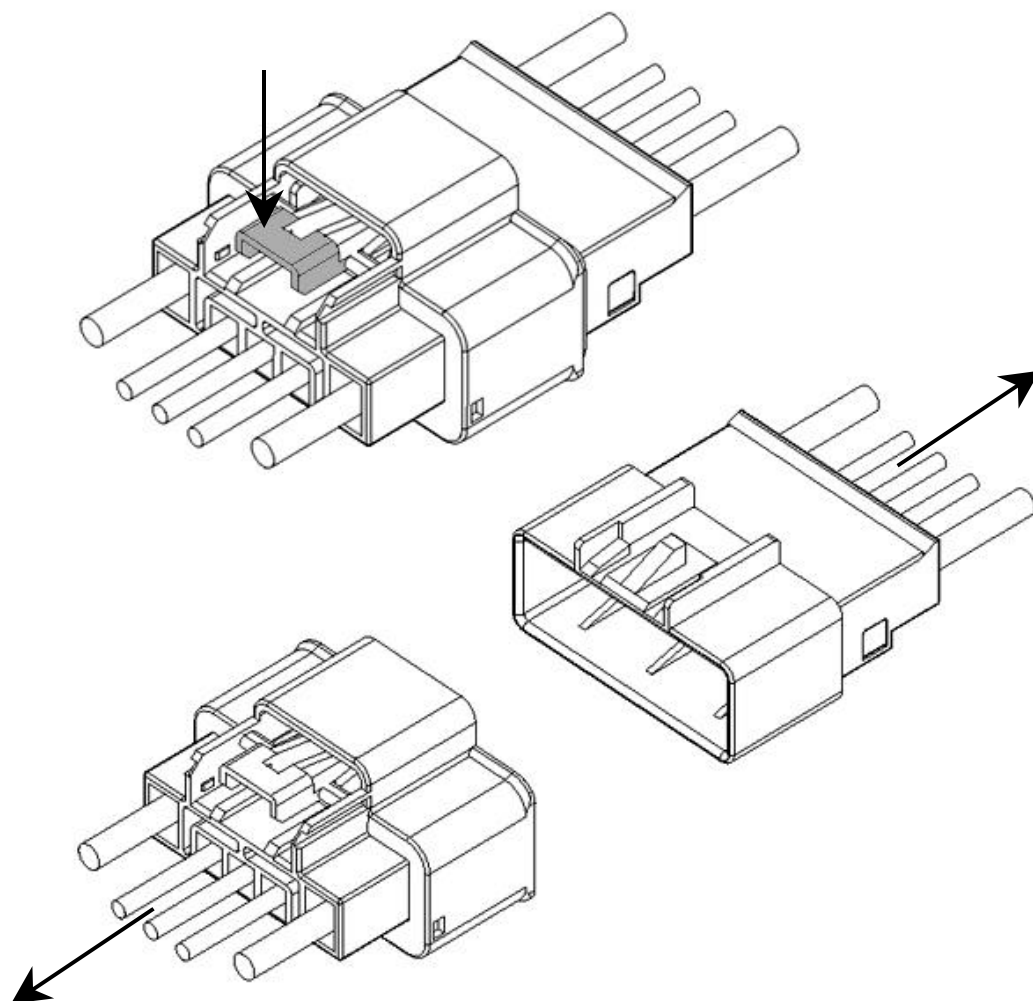

Figure 6
- 6.1 Press the Lock in the direction shown by the arrows and pull the connectors ; see Figure 6 below .